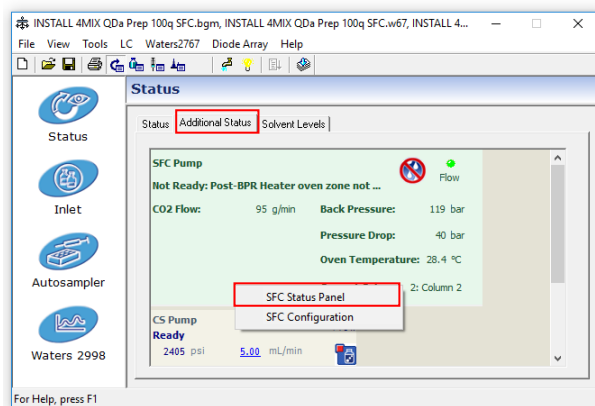

图6-49
- Additional Status: 右键-SFC Status Panel 并点击SFC Status Panel (图6-49),弹出6-50SFC状态栏;